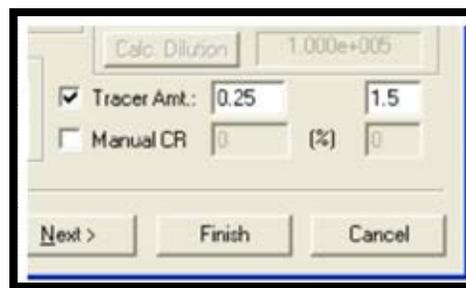

Figure 127. Enter Per-Sample Tracer Amount or Manual Percent Recovery
- By adding different quantities of tracer to one or more samples in the Batch. Setup is performed on this screen, sample-by-sample, by marking the **Tracer** checkbox at the bottom right (Figure 127), then entering the tracer volume in the left-hand field and, optionally, the percent uncertainty in the right-hand field. Users will select the units of measure for the tracer beside the **Tracer Amt** field in the **Relative Analysis** section of the Analysis screen (see page 139 in Section 11.4.5).
If users marked the **Manual CR** box on the Sample page (refer back to Figure 127, page 137), this section of the screen will be active. Enter the laboratory-determined chemical percent recovery and optional percent uncertainty. (For this type of analysis, it is typical to choose the **No Analysis** option on the Analysis page, count the samples, then reanalyze each sample by entering the recovery percent here.)